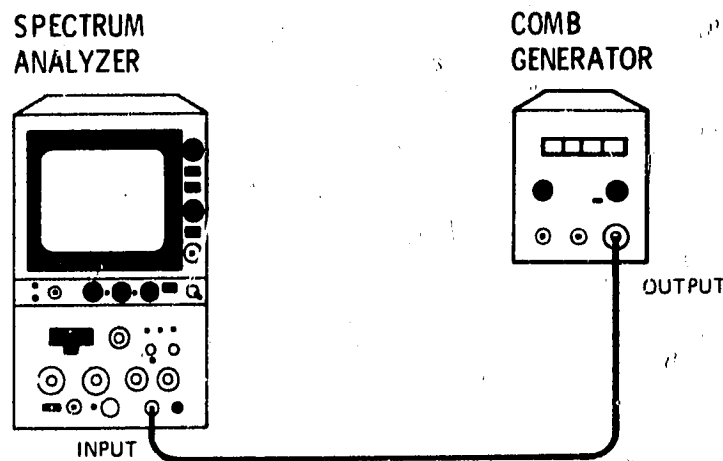

Figure 4-8. Noise Sidebands Test Setup
2. Connect equipment as shown in Figure 4-8.